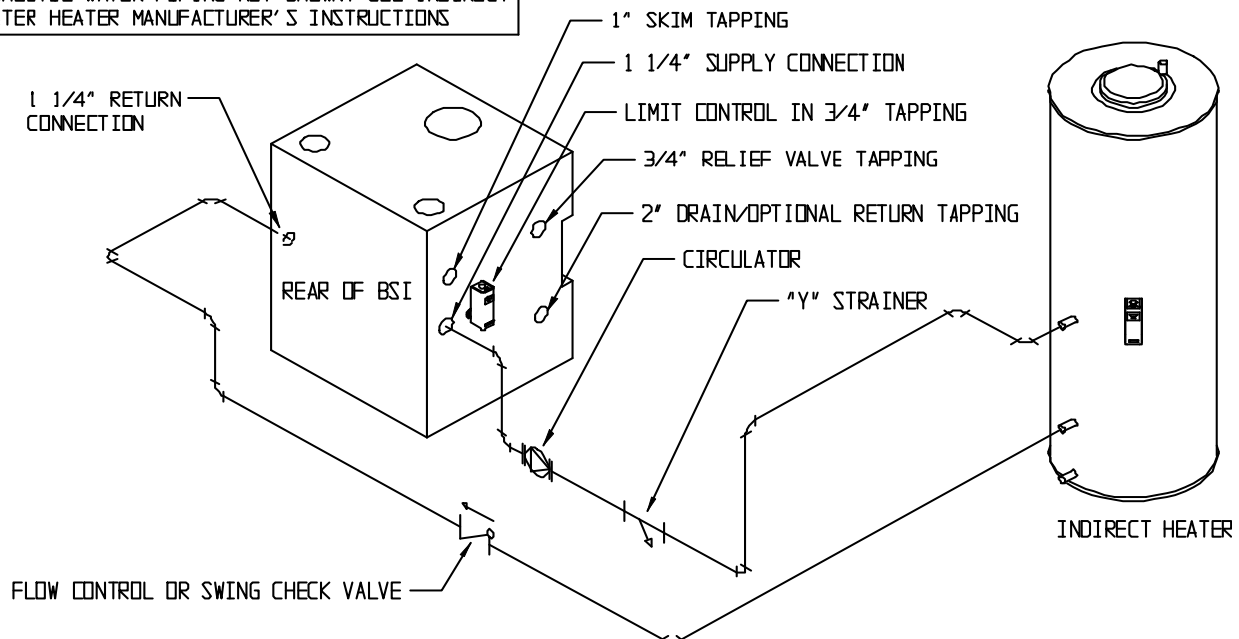
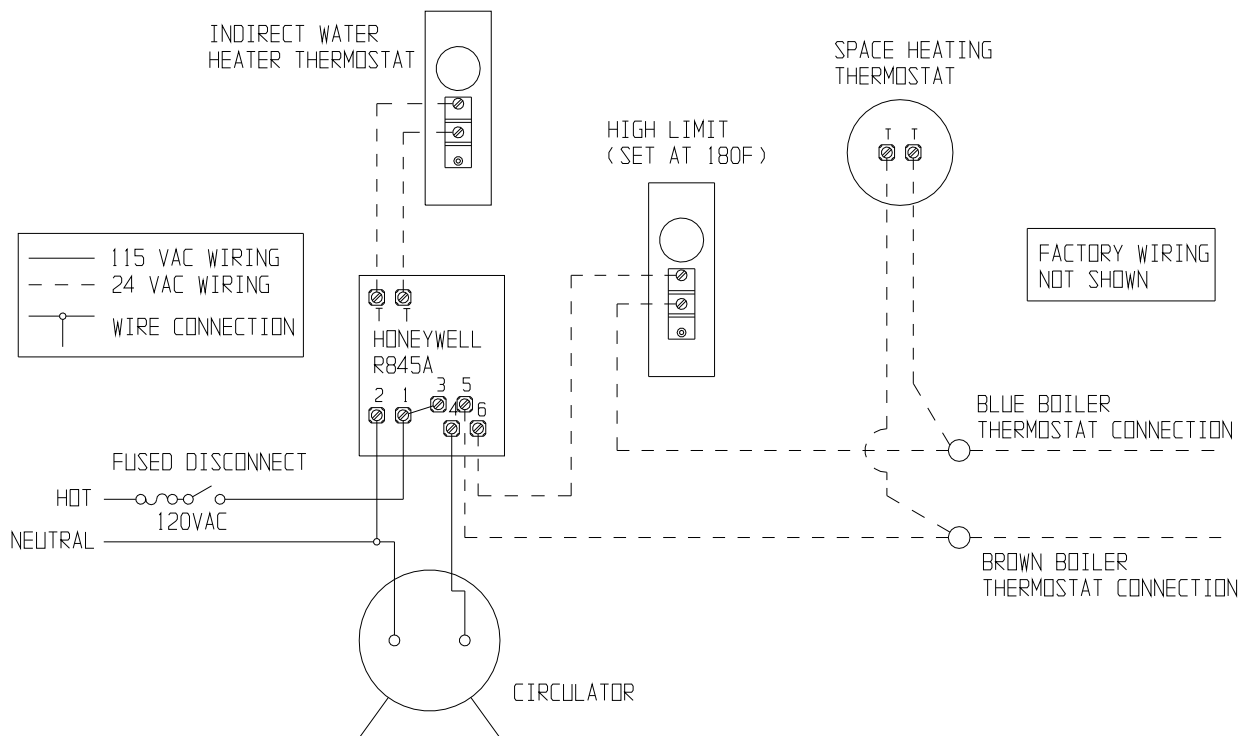

FIGURE 13: INDIRECT WATER HEATER BOILER-SIDE PIPING
FIGURE 15: WIRING INDIRECT WATER HEATER TO BOILER
- 1) Circulator - Mount the circulator as shown in Figure 13. The circulator should be located as low and as close to the boiler as practical. Do not install valves, or other devices having a significant pressure drop, between the boiler and the circulator inlet. All piping between the boiler and the circulator inlet should be 1", regardless of the size of the piping required in the rest of the system. See Figure 15 in Part X for wiring information.
- 4) Boiler Limit Control - Use a SPST break-on-rise temperature limit control such as the Honeywell L4006A. Do not set the limit above 180F as doing so may cause the boiler to steam when there is no call for heat. See Figure 15 for wiring information.
Figure 15 shows field wiring for an indirect water heater. A Honeywell R845A or equivalent DPST relay and transformer is required. The high limit described in Part IX must also be supplied by the installer. A call for heat from the indirect water heater thermostat will energize the relay making both sets of contacts. One set of these contacts then energizes the circulator. The other set of contacts will make the “T” and “T” contacts on the burner primary control, firing the burner. If the boiler water temperature exceeds the high limit setting of 180F, the high limit will open the “T” - “T” circuit and the burner will shut down.